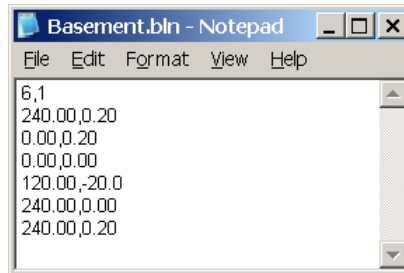
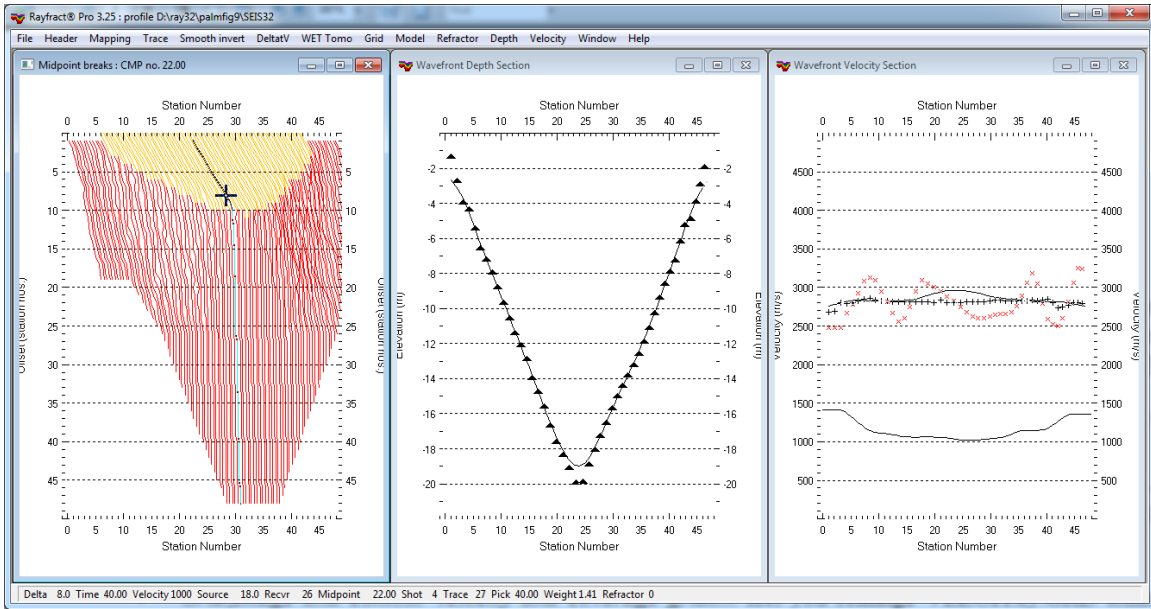

Fig. 2 : Edit basement blanking file in Notepad
Fig. 9 : left : Refractor|Midpoint breaks, center : Depth|Wavefront, right : Velocity|Wavefront
Next we edit a *blanking file*, with any text editor. Select *Start|Run...*, enter the program name NOTEPAD.EXE and hit RETURN. Then enter content as in Fig. 2 :
- select *Velocity|Wavefront* and *Window|Tile* to obtain Fig. 9
To plot the basement refractor obtained in Fig. 9 on the 2D WET tomogram shown in Fig. 7 :
- click on *Window Wavefront Depth Section* (center) in Fig. 9
Fig. 7 : 2D WET tomogram obtained with Smooth inversion, 100 WET iterations, wavepath width 10%, maximum WET velocity limited to 3,000 m/s. No scaling of WET wavepath width and filter height. Basement refractor obtained with Wavefront refraction method (Fig. 9) is plotted as green line.
For an explanation of *Refractor|Midpoint breaks* display of CMP sorted traveltime curves (Fig. 9 left) see our DeltatV paper, Fig. 2. The steeper the local dip of a CMP sorted traveltime curve, the higher the local apparent velocity.
Obviously the layer-based *Wavefront refraction* method interpretation (Fig. 9) works better in this simple case. But as shown by Sheehan et al. in 2005, *Smooth inversion* including 2D WET inversion (Fig. 7) often works better than layer-based interpretation, in case of strong lateral velocity variation, gradual increase of velocity with depth, laterally discontinuous layers, pinch outs, outcrops, fault zones, low-velocity layers etc. Also, WET inversion does not depend on your always **subjective and non-unique mapping of traces to refractors**.